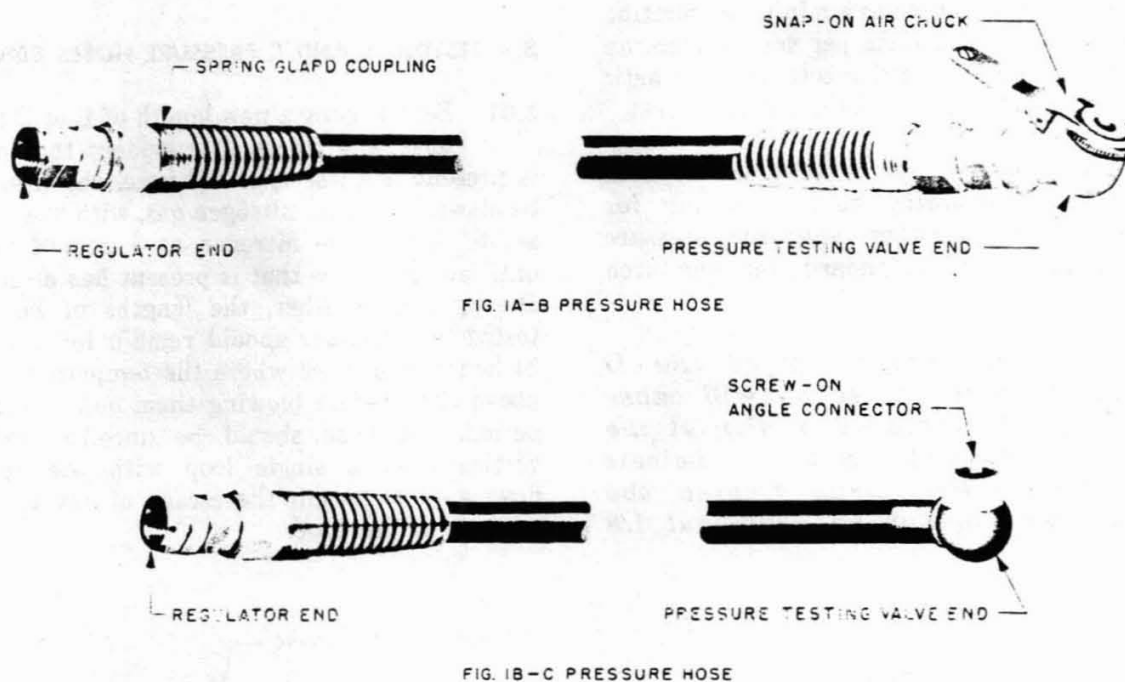

Fig. 1—B and C Pressure Hoses
2.01 The B and C hoses, illustrated in Fig. 1, are available in any length desired and have a nominal inside diameter of 3/16 inch and outside diameter of 7/16 inch.